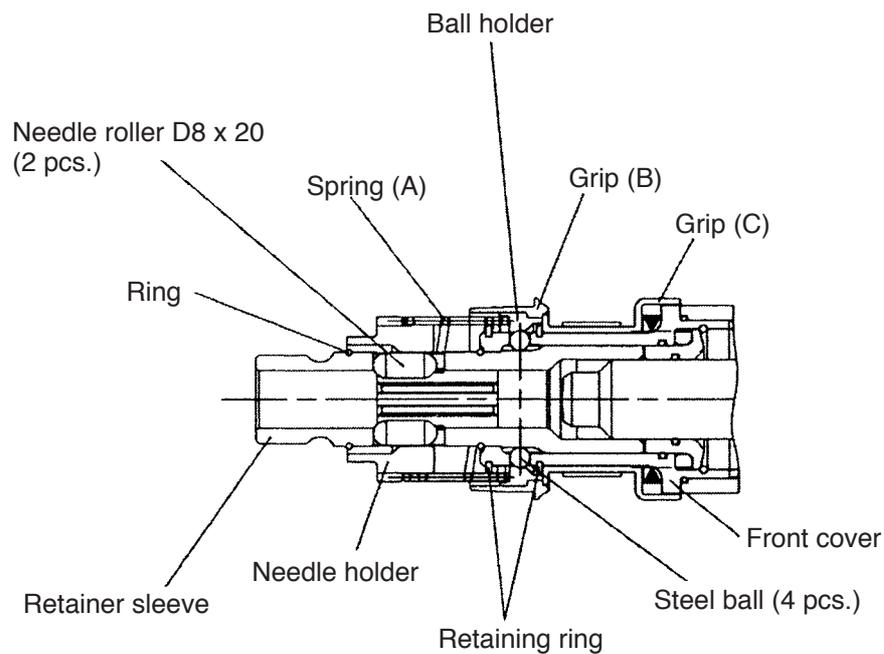

Fig. 13
Remove the Ring **[3]** by means of a snap ring remover, then the Needle Holder **[4]**, two Needle Rollers D8 x 20 **[15]** and Spring (A) **[5]** can be removed from the Retainer Sleeve **[16]**. Remove the Retaining Ring D42 **[6]** by means of a snap ring remover, then the Ball Holder **[7]**, Grip (B) **[8]** and four Steel Balls D6.35 **[10]** can be removed from the Front Cover **[12]**. Furthermore, remove the Retaining Ring D42 **[6]** by means of a snap ring remover, then Grip (C) **[9]** can be removed from the Front Cover **[12]** (Fig. 13).